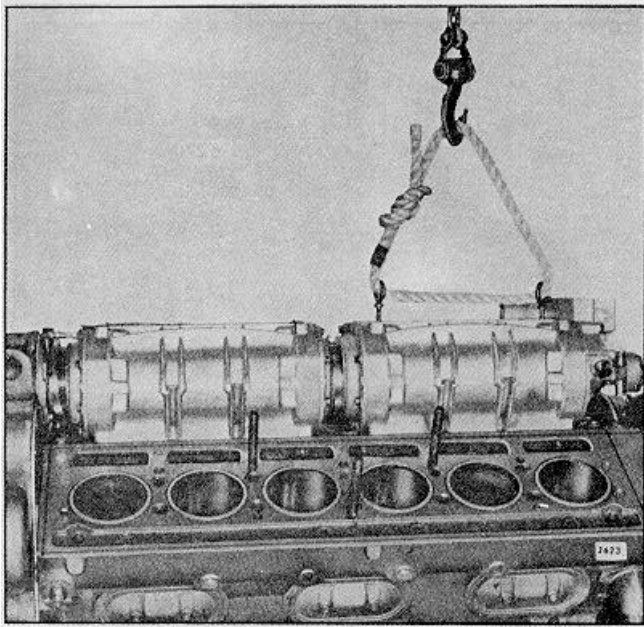

FIG. 6 - Removing Blower from Engine (12V Engine)
24. Thread eyebolts in the diagonally opposite tapped holes in the top of the blower housing. Then attach a rope sling and chain hoist to the eyebolts as shown in Fig. 6.